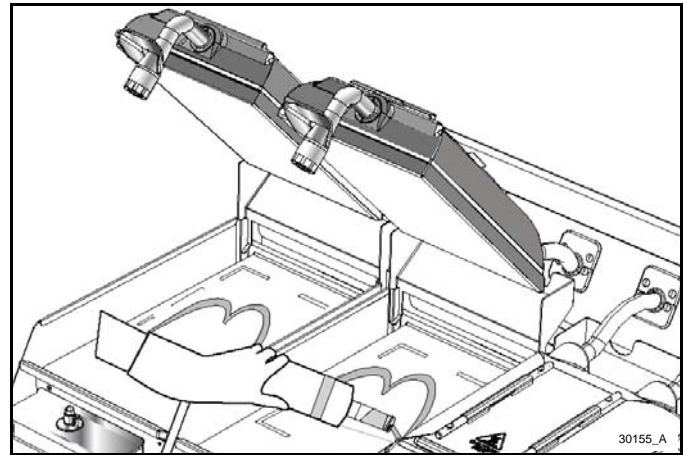

Figure-114
21. Beginning on the left lower plate, pour the dosed 1/2 oz. of grill cleaner from left to right in the shape of an arched M. Repeat for each lower plate until all of them are fully covered. See Figure-114.